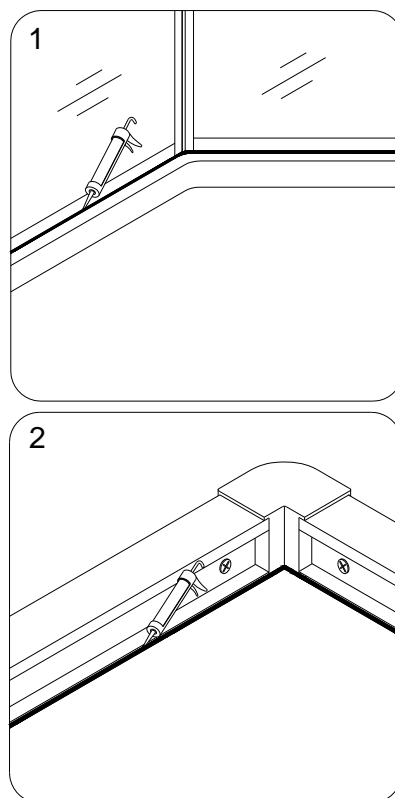

Fig 17
18. Seal with silicone on all connections between the vertical profiles and the back panel, bottom rail and tray, tray and back panel. Let it dray for 24 hours before moving the cabin. See Fig 17 for details.